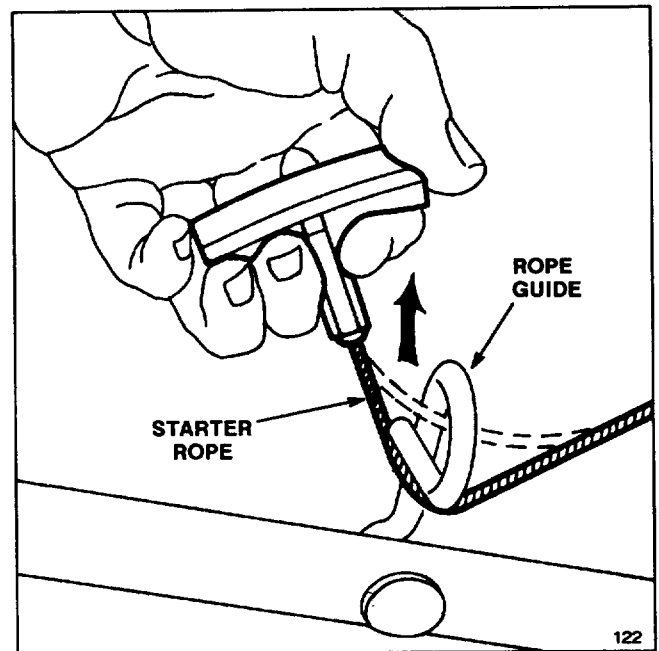

Figure 2
1. Pull starter rope through rope guide on handle (Fig. 2). To make rope easier to loop, squeeze control bar on handle to release blade brake.